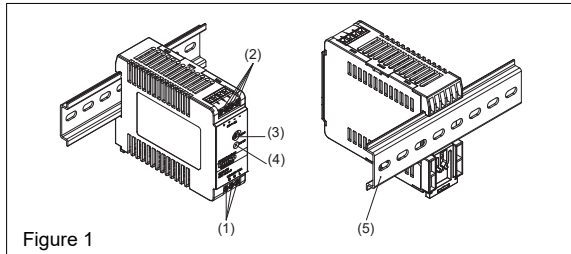
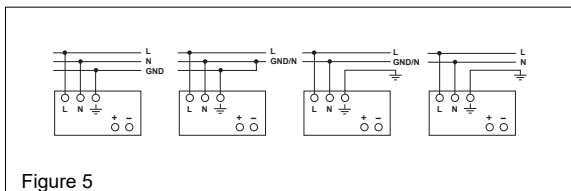

Figure 1
Figure 5
**2. Device description (Fig. 1)**
**5.1. Input connection (Fig. 1, Fig. 5)**
Use L, N and GND connections of input terminal connector (see Fig. 1 (1)) to establish the 100-240 VAC connection. Typical connection methods are shown in Figure 5.
**5.2. Output connection (Fig. 1 (2))**
Use the "+" and "-" screw connections to establish the 5VDC connection. The output provides 5VDC. The output voltage can be adjusted from 5 to 5.5 VDC on the potentiometer. The green LED DC OK displays correct function of the output (Fig. 1 (4)). The device has a short circuit and overload protection and an overvoltage protection limited to 6.325-7.425 VDC.